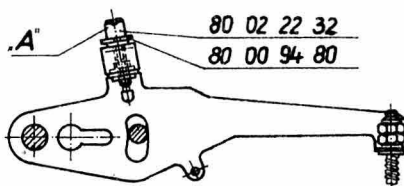

fig. 10
- The stitch length of the buttonhole cross seams will be adjusted at adjusting point "A" (fig. 10).